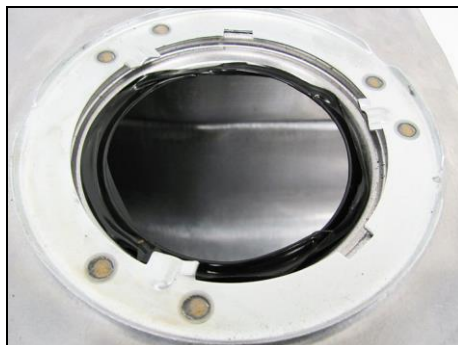

Figure 12
3. Cover the edge of the tank opening with electrical tape or duct tape (**Figure 12**).